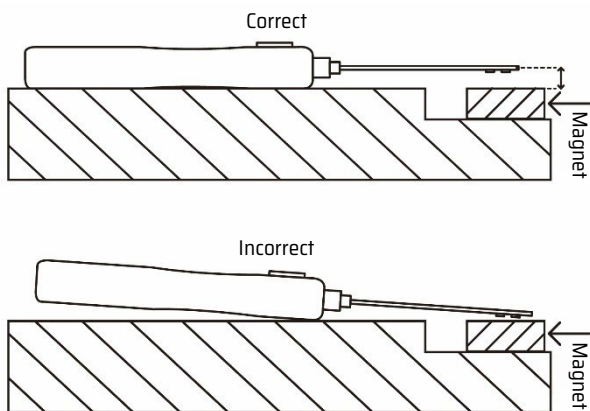

Fig. 1
3. Move the HALL ELEMENT which is located on the tip of probe close to the magnet under test and start measuring. Please refer to Fig. 1.